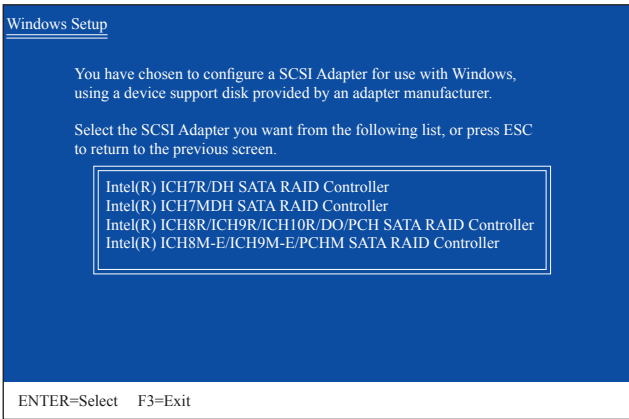

Figure 2
Insert the floppy disk containing the SATA RAID/AHCI driver and press <S>. Then a controller menu similar to Figure 2 below will appear. Select **Intel(R) ICH8R/ICH9R/ICH10R/DO/PCH SATA RAID Controller** and press <Enter>.